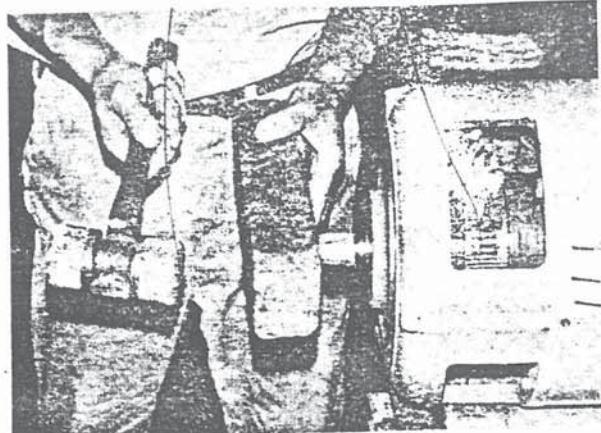

Fig. 8-10
i) Apply a wooden plank to the shaft end on the commutator side and top the wooden plank with a wooden hammer to remove the rotor from the commutator shield. Subsequently withdraw the rotor from the frame. (Fig. 8-10)